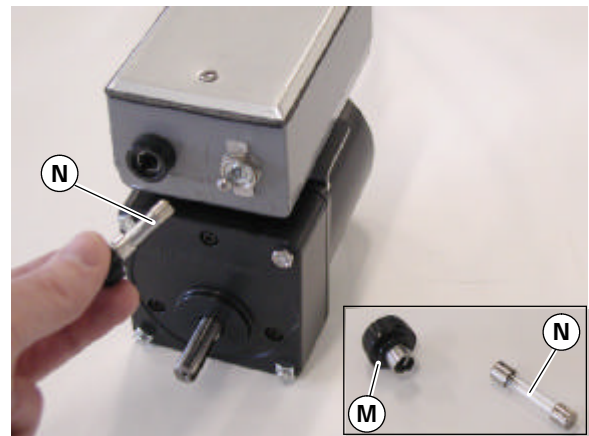

Figure 23
**16.** Remove and discard old fuse (N of Figure 23).